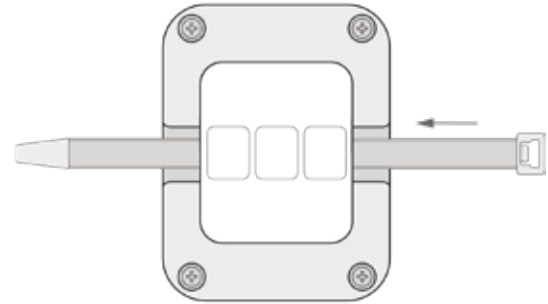

Fig. 02
2. Pass the ziptie (included with the product) through the channel on the front part of the sensor (Fig. 02)